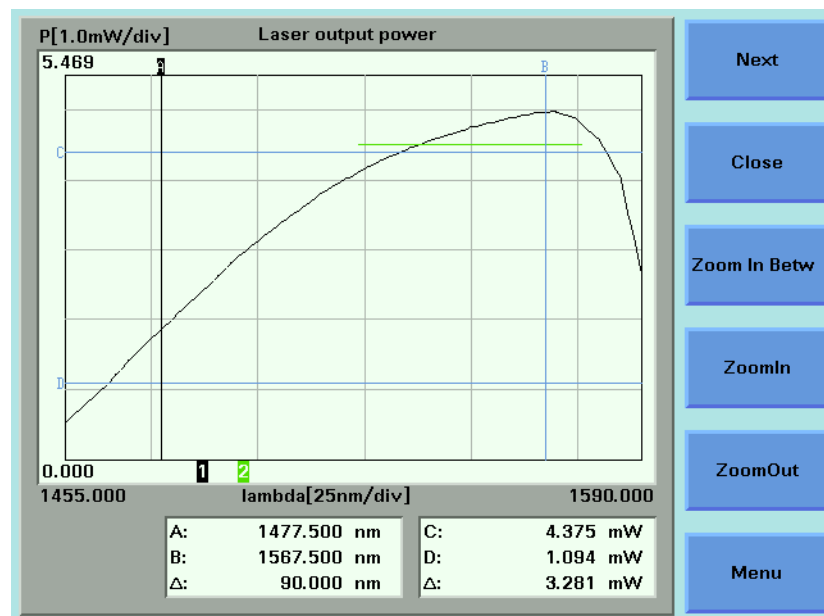

Figure 173 The Pmax Curve Screen
- 2 Move to <Pmax curve> and press *Enter*. The Pmax Curve Screen, as shown in Figure 173 , appears.